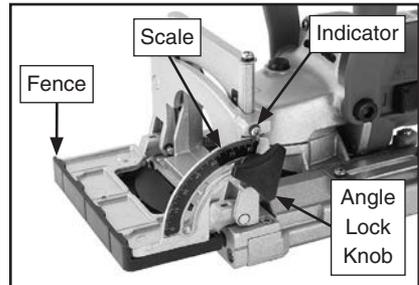

Figure 7. Cutting angle controls.
1. Loosen angle lock knob (see **Figure 7**).